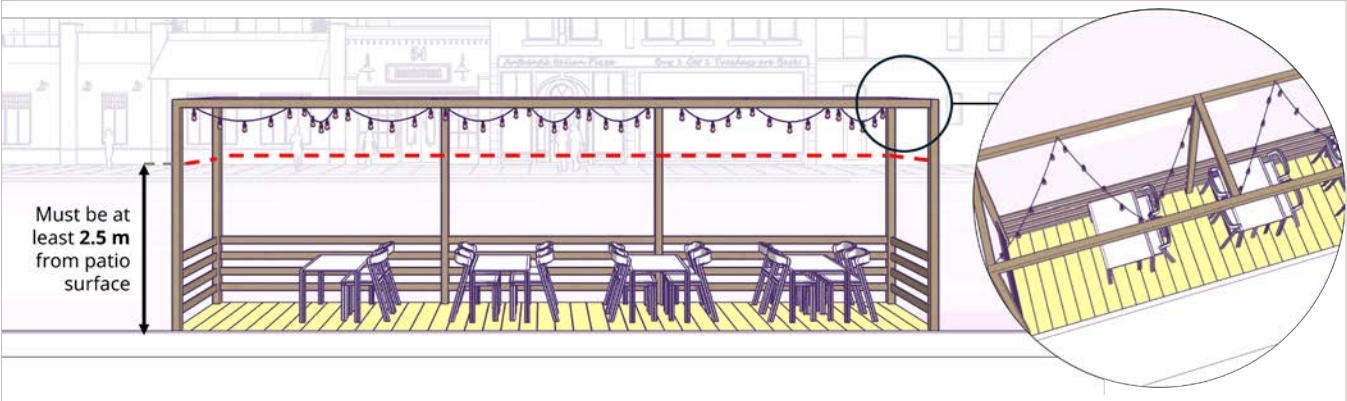

Figure 35: Lighting hanging directly above patio users
- c. Lighting hanging directly above the patio users or seating must be **at least 2.5 m** above the patio surface (see Figure 35).